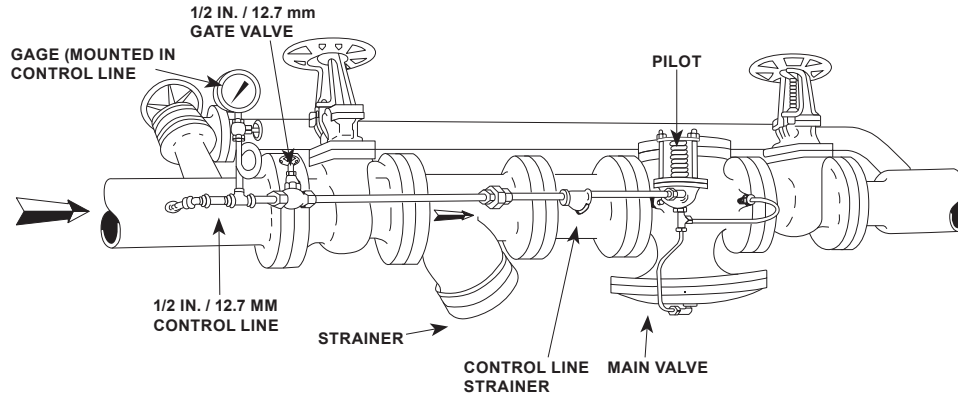

Figure 2. Installation of Back Pressure Regulator with Three-Valve Bypass and Strainers
1. Install the main valve in a straight run of horizontal pipe. The diaphragm chamber must be down and the flow arrow pointing in the direction of flow. (See Figure 2)